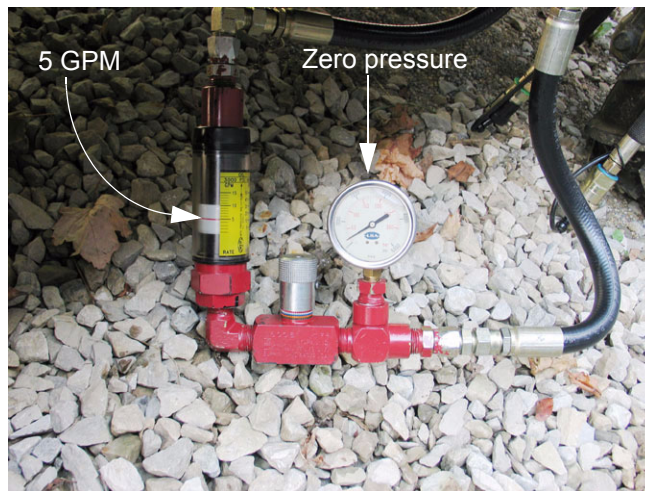

Figure 9.6
- 9.6. With the test kit installed so that the pressure gauge is near the boom-down fitting (green band 3d one in), and the flow meter is near the boom-up fitting (blue band, outboard coupler), pushing the loader valve forward to the detent will generate a reading on the flow meter of about 5.0 GPM (19.0 LPM) when the test kit flow valve is open. Pressure will be zero. See Figure 9.6.